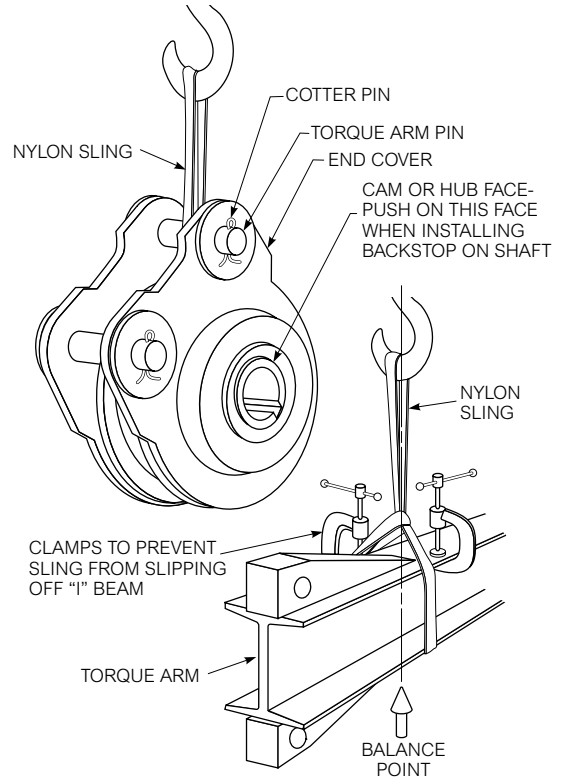

Figure 5
4. Refer to Figure 5, page 5. Lift backstop and slide it onto shaft. Apply axial force only to the inner cam face of the backstop. The backstop must be positioned to meet certain minimum engagement requirements which vary with backstop and bore size. Minimum required engagement is determined by the GREATER distance of:
③ Do not oil fasteners.
1. Lift torque arm as shown in Figure 5, page 5, and attach it to the backstop with torque arm pins and cotter pins supplied with backstop. Lock cotter pins.